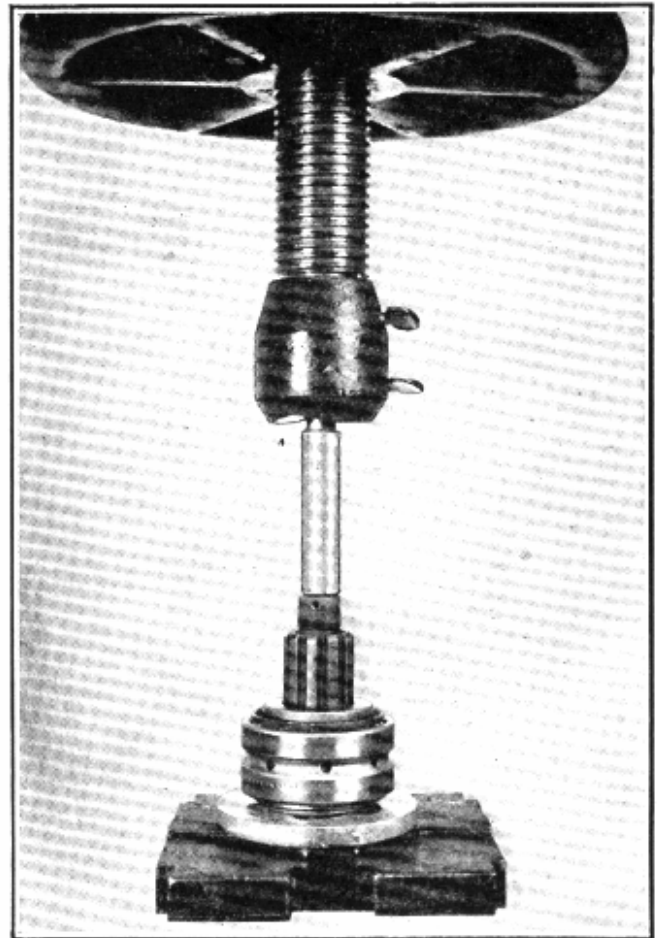

Fig. 34—Removing the Double Row Pinion Bearing
2. Press the double row pinion bearing from the pinion shaft, supporting the bearing at the inner race and using the pinion bearing remover J-1439 with an arbor press as shown in Fig. 34.